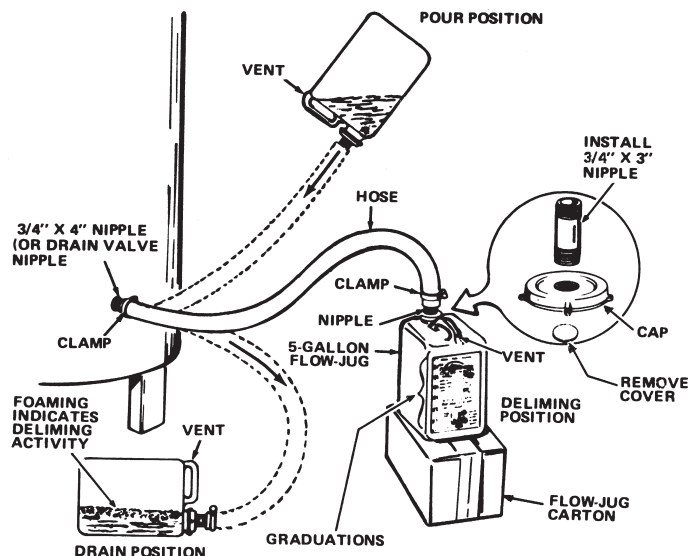

FIGURE 28.
6. Lift container to the "Pour" Position, see Figure 28, being careful to keep the vent in the handle above the liquid level and pour the UN•LIME into the heater.
8. Let UN•LIME remain in the heater for 5 minutes and then lower the container to the "Drain" Position, see Figure 28.